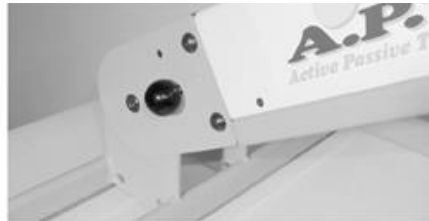

Figure 6 - angle release knob
Step 2: Loosen the angle-securing knob (Figure 5-1) and adjust the **APT-5+** to the required angle. To increase the angle, lift the body of the **APT-5+**, allow it to “click” into one of the operating positions and retighten the securing knob. To decrease the angle, pull the angle release knob (Figure 6), lower the body of the **APT-5+**, allow it to “click” into another operating position and tighten the securing knob.